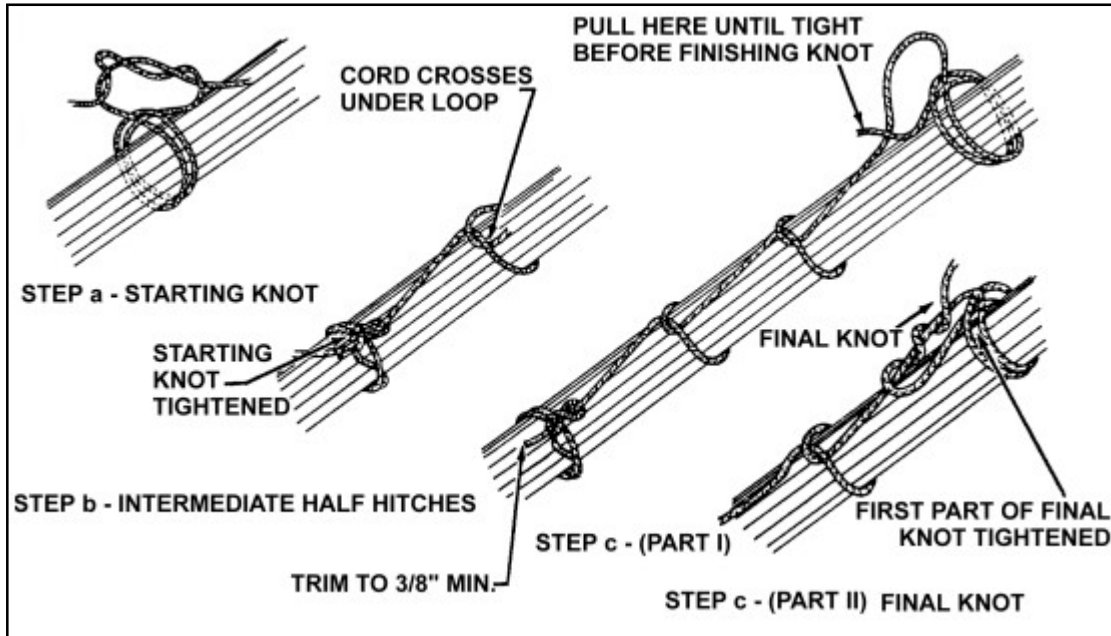
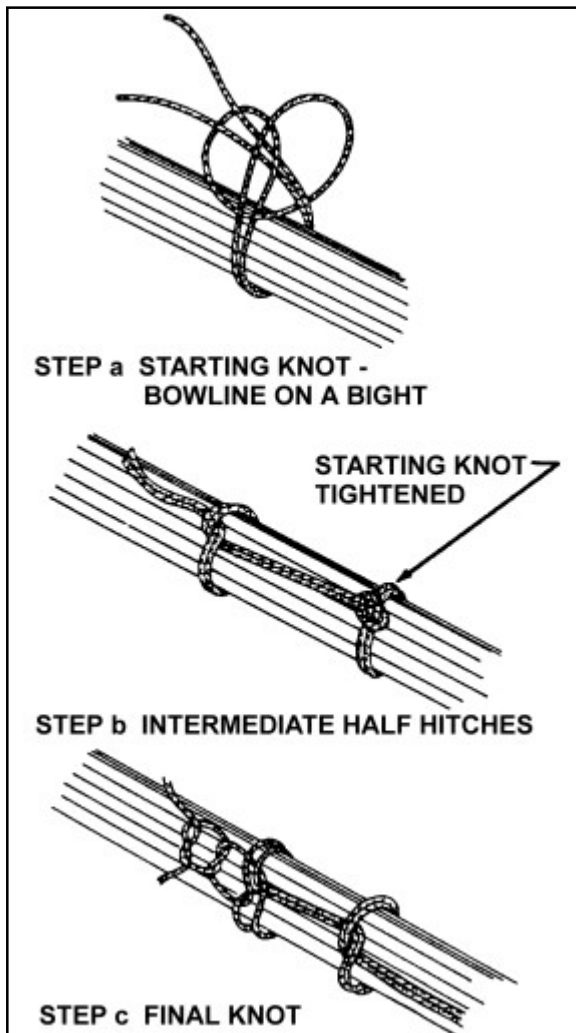

FIGURE 11-15. Single cord lacing.
FIGURE 11-16. Double cord lacing.
**a. Lacing.** Lace wire groups or bundles inside junction boxes or other enclosures. Single cord-lacing method, shown in figure 11-15, and tying tape, meeting specification MIL-T-43435, may be used for wire groups of bundles 1-inch in diameter or less. The recommended knot for starting the single cord-lacing method is a clove hitch secured by a double-looped overhand knot as shown in figure 11-15, step a. Use the double cord-lacing method on wire bundles 1-inch in diameter or larger as shown in figure 11-16. When using the double cord-lacing method, employ a bowline on a bight as the starting knot.